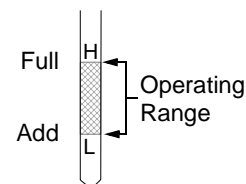

Figure 51
- Always keep the oil level between the 'H' (full) and the 'L' (add) marks on the dipstick. See Figure 51.
- SLOWLY pour oil into the crankcase until the oil level reaches the “FULL” mark on the dipstick. Refer to Figure 51.